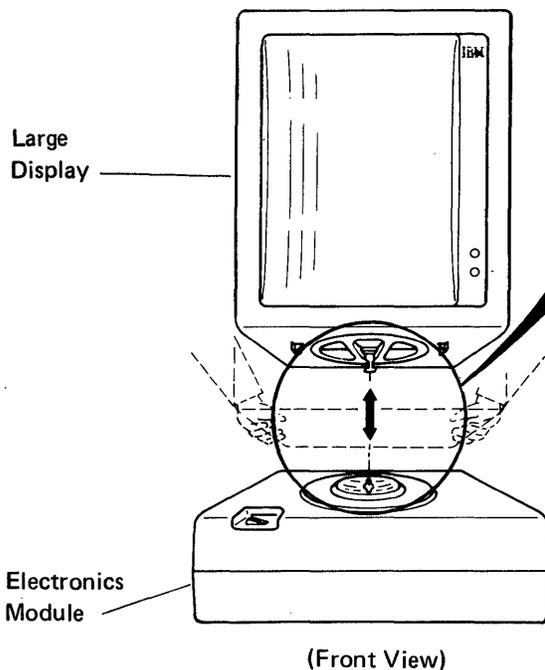

Figure 4-17. Large Display Module Removal
4. Be sure the display module is facing straight forward and is exactly level, (not tilted). (See Figure 4-17.)